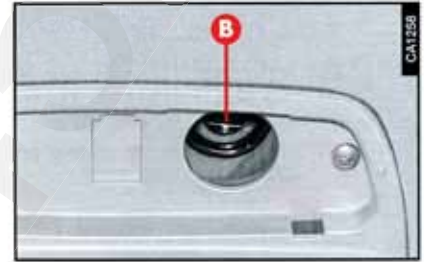

fig. 96
2. Using the special key provided in the tool box press and rotate bushing (B-fig. 96) to move the sunroof clockwise to open and counterclockwise to close.